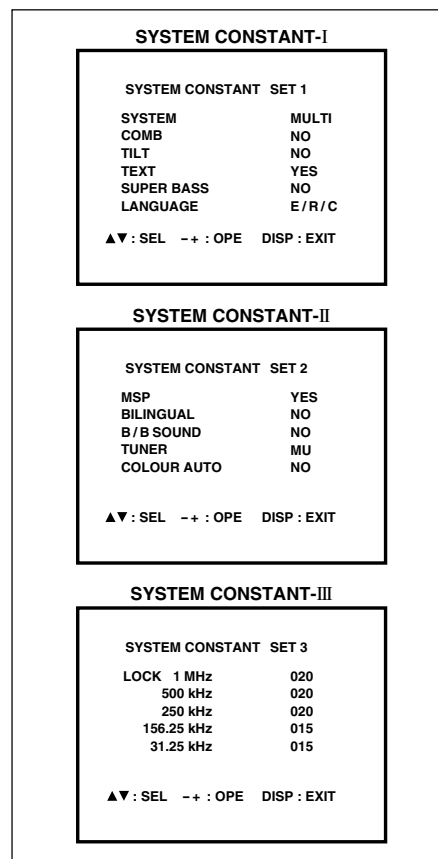

Fig. 2
1. While pushing down the 2 claws maked (E) as shown in Fig. 2.
2. When you pull out the Control base in the direction of arrow maked (F) as shown in Fig. 2.
- 2) In the SERVICE MENU, press the DISPLAY key and PICTURE MODE key simultaneously. Then, the SYSTEM CONSTANT SET screen will be displayed.(See Fig.2.)